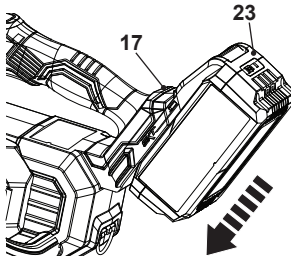

Fig. 13
1. Align the battery pack (23) with the sliding slots of the battery docking port (17) and slide the battery pack (23) in to attach it. Ensure it clicks in place (Fig. 13).